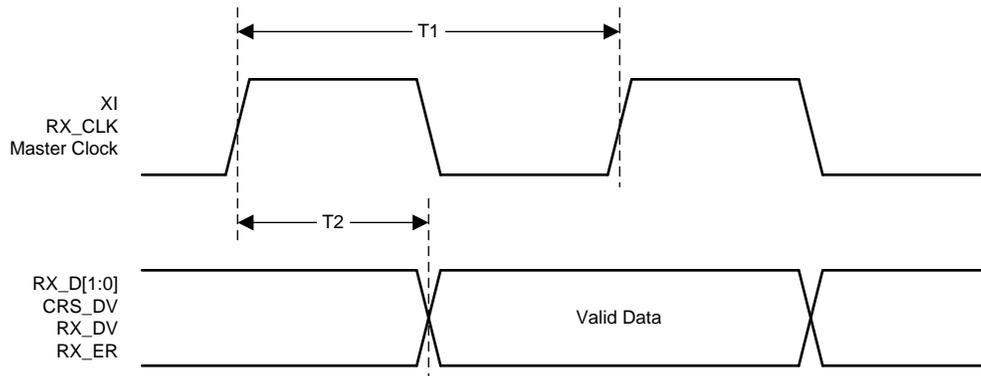

图 9. RGMII Receive Timing
(1) Ensured by production test, characterization or design.
(2) See 图 9.